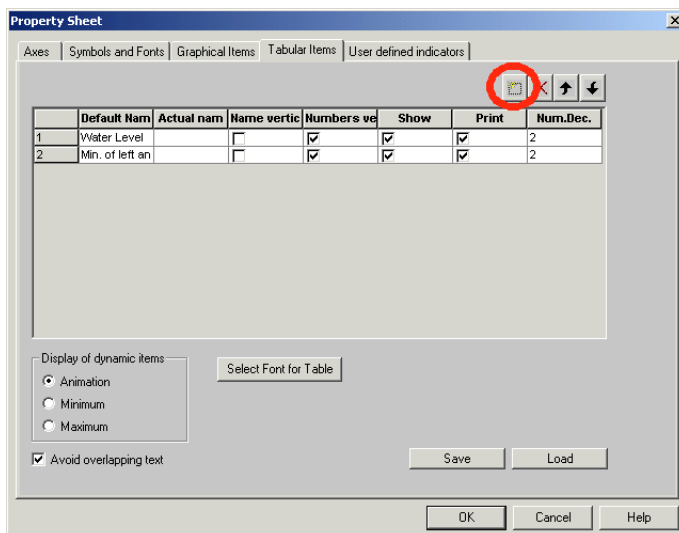

Figure 12.26 Longitudinal Profile Options Menu –Tabular Items
- Select the “Insert” tool (circled in Figure 12.26) and explore the dynamic and static options available to you. Try displaying various items and observing how the LPW is updated.